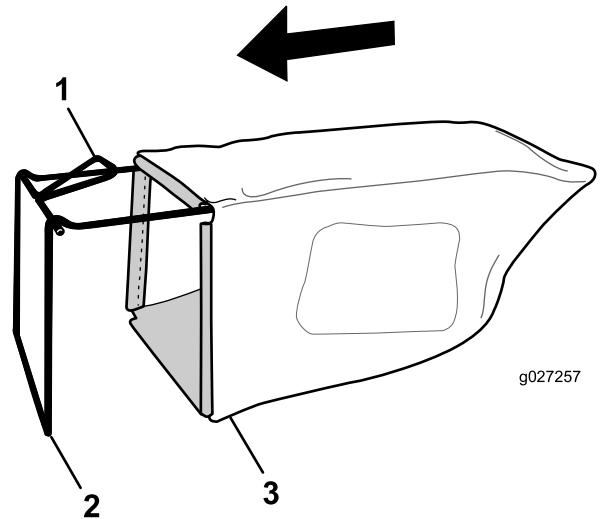

Figure 7
1. Slip the grass bag over the frame as shown in Figure 7.
- Note:** Do not slip the bag over the handle (Figure 7).